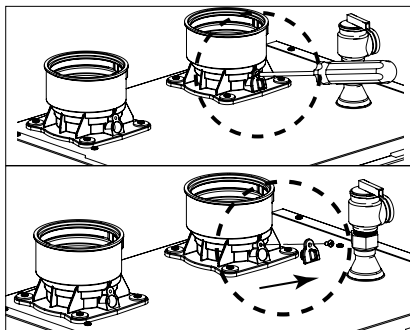

Figure 6 – Combustion Test Port
Remove the Combustion Test Port plug, as illustrated (Figure 6), and insert a calibrated combustion analyzer.
3. Reinstall the Combustion Test Port plug (see Figure 6).